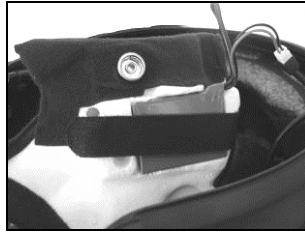

Fig. 17
- Position the battery in the right polystyrene cheek pad housing and secure it using the Velcro ribbon. (Fig. 17 / 18)